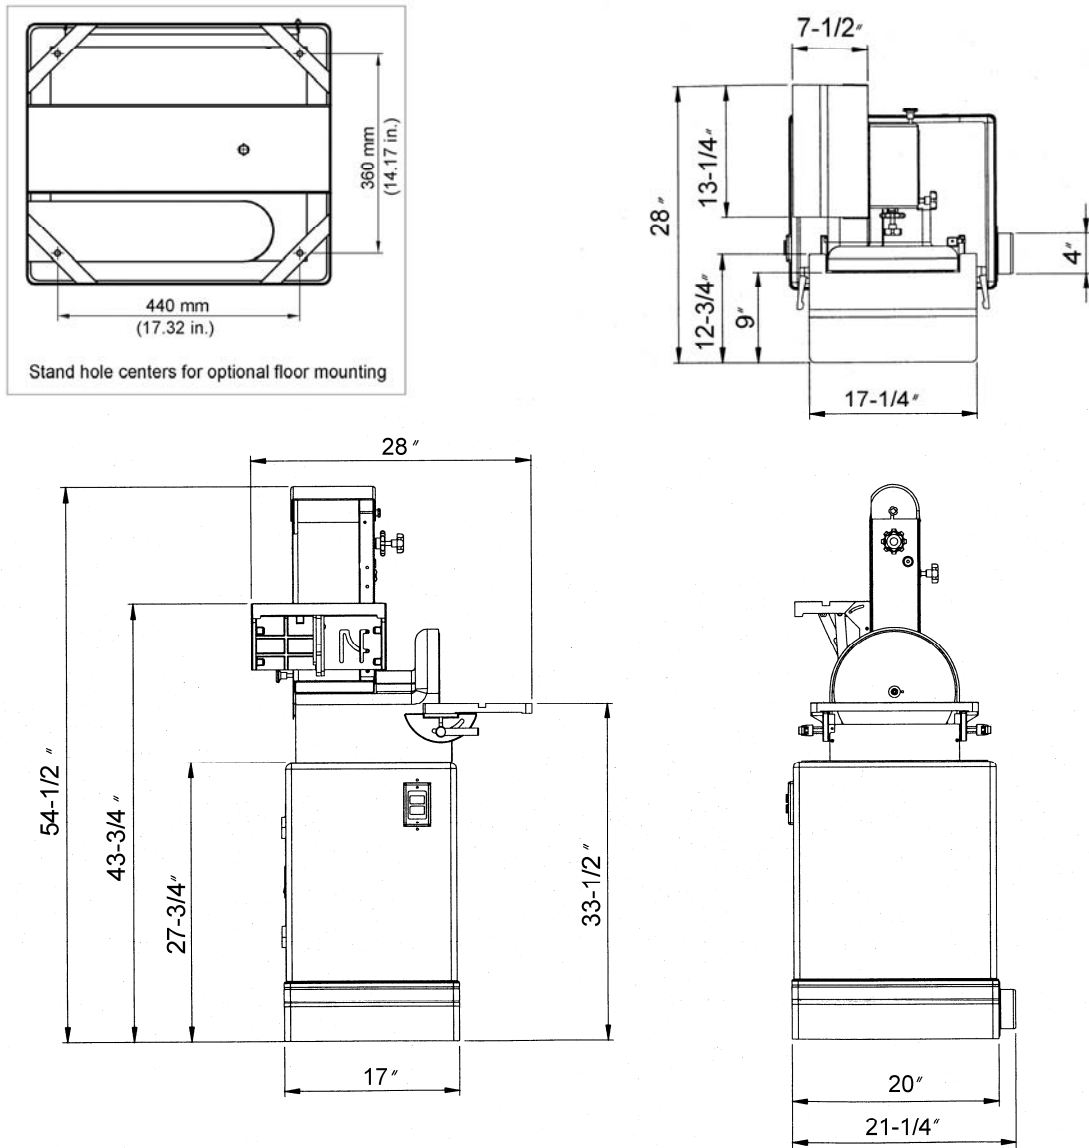

Figure 2
1. If the machine is to be secured to the floor, use high quality lag screws through the four holes inside the bottom of the stand (see Figure 2 for hole center dimensions). If using a mobile base, be sure to lock the wheels before assembling, operating or making adjustments to the sander. (A mobile base for your sander – part no. 708118 – is available from Powermatic.)